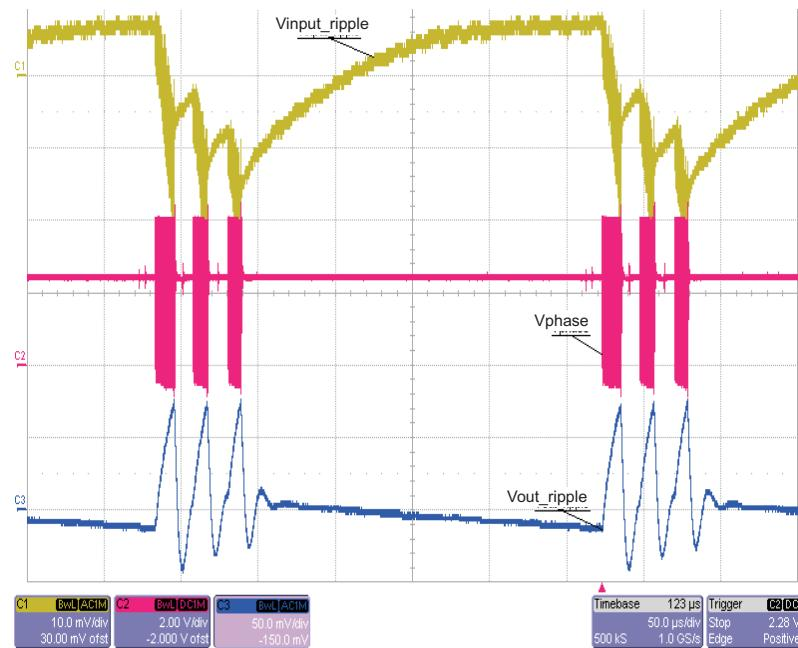

Figure 4. SNOOZE Mode. Vin = 4 V, Vout = 2.5 V, Iout = 25 mA. CH1 = Input Ripple; CH2 = Phase; CH3 = Output Ripple
6. Set the load to 100 Ω (25 mA), set CH3 to 50 mV/div, and move shunt from JMP1-PWM/PFM to JP1-SNOOZE. Observe that the IC is in low-power mode where the IC shuts down for short periods and then wakes up to restore regulation. Note how the ripple is much larger at the expense of better efficiency at light loads (see Figure 4).